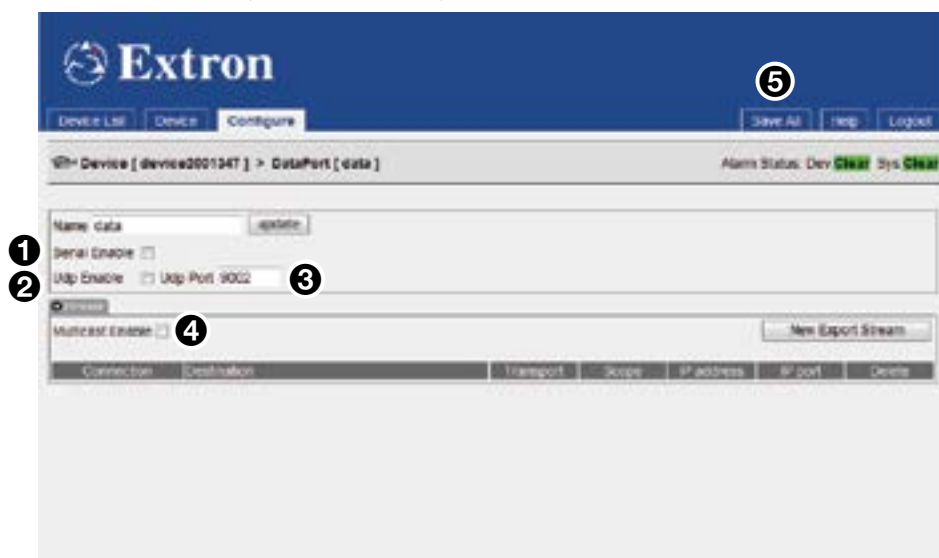

Figure 55. Configure Tab (Data Options)
- If required, check the **Serial Enable** box (see figure 55, **1**).
6. If RTP multicast source streaming is required, select the **Multicast Enable** box (see figure 55, ④ on the previous page). If RTP unicast is required, ensure the box is not selected.